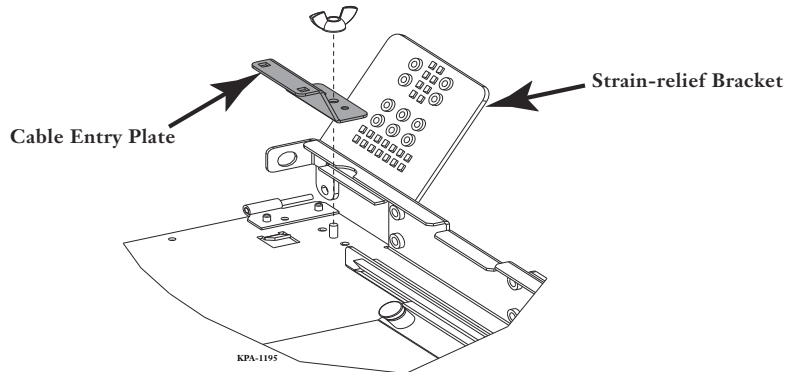

Figure 4 — Install Cable Entry Plate
Step 3: Install cable entry plate using the provided wing nut (Figure 4) at the location where the cable will enter the housing.
Step 4: Install the strain-relief bracket to the side of the housing (Figure 4) at the location where the cable will enter the housing.